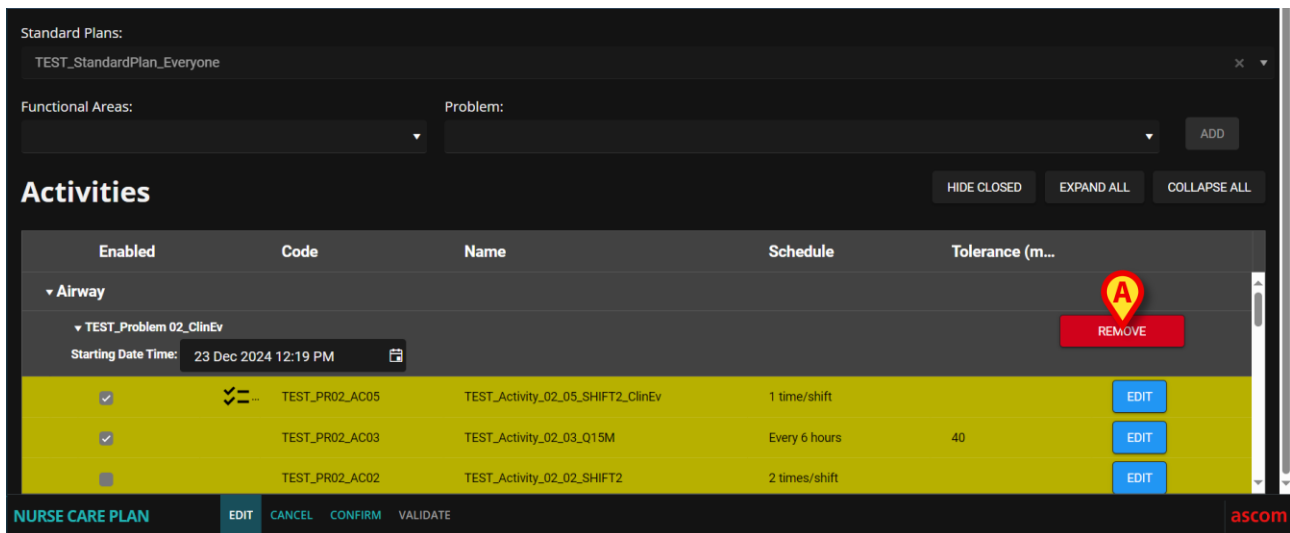

Fig 21
The problems and activities belonging to the plan will be displayed (Fig 21).
*If necessary, you can use the **Remove** button placed alongside each problem (Fig 21 A) to remove the single specific problem.*